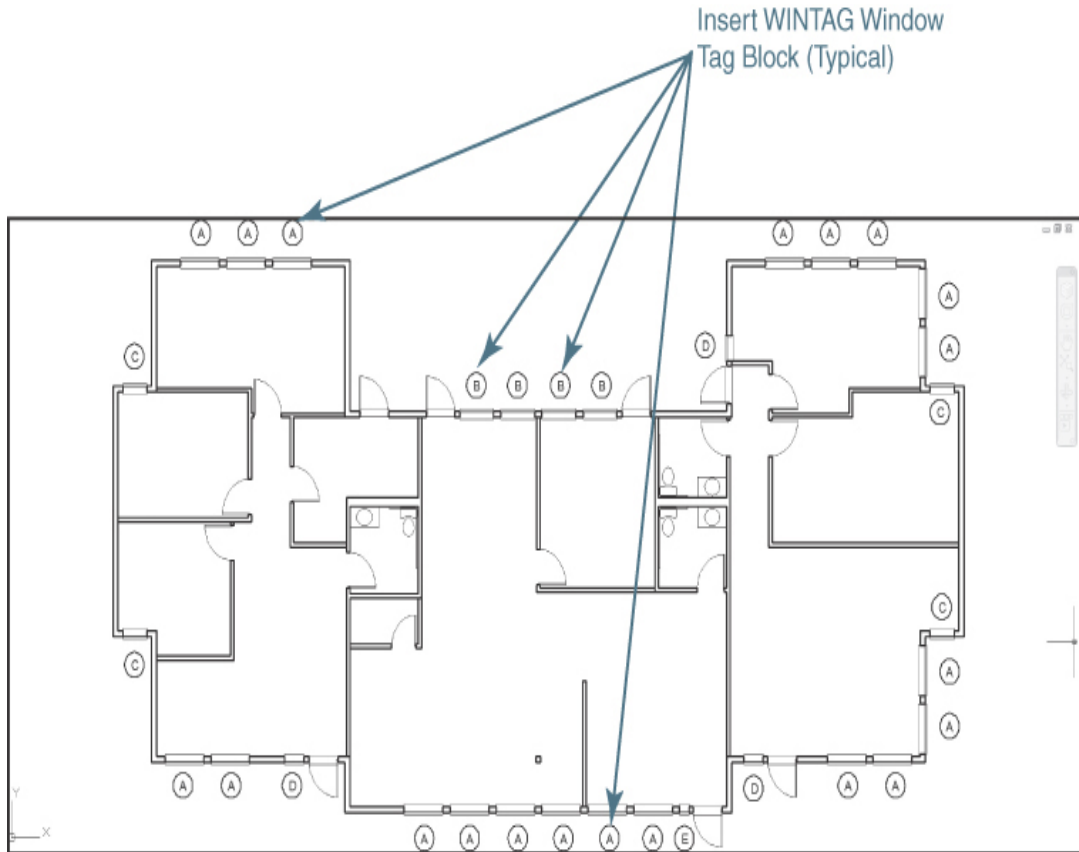

Figure 16-35
- 6 Locate the window tags as shown in Figure 16-35, and update them with the following attribute values: